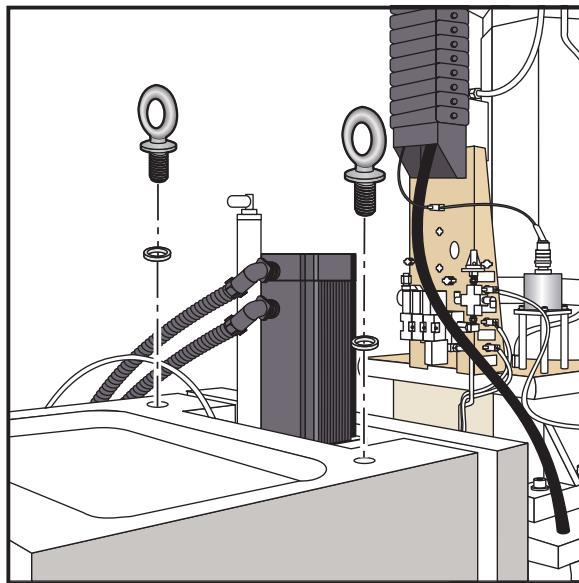

Fig. 12.26-4 VF-3/VF-4 eyebolt locations.
4. Install (2) $\frac{3}{4}$ -10 x $1\frac{1}{4}$ " eyebolts and (2) 3/4" hard washers to the column casting as shown in Figure 12.26-4. Tighten securely.